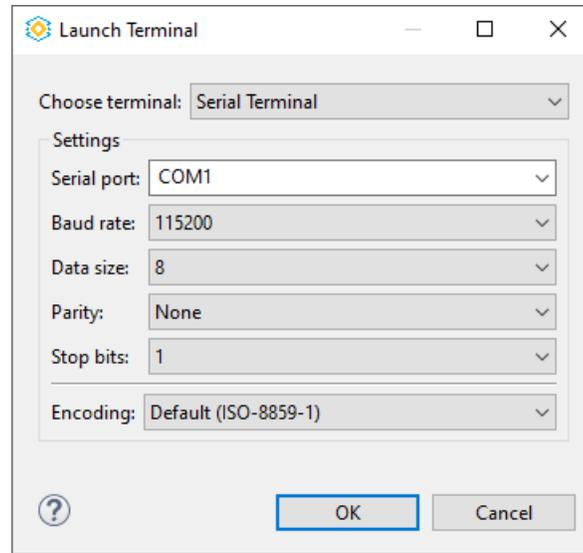

Figure 3.39. Launch Terminal Dialog
2. In the **Terminal** view, click the **Open a Terminal** icon . The **Launch Terminal** dialog opens (Figure 3.39).